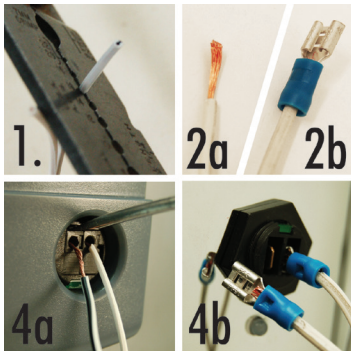

Fig.4 Low voltage wire connection
2. Refer to Fig. 4 for visual aid: